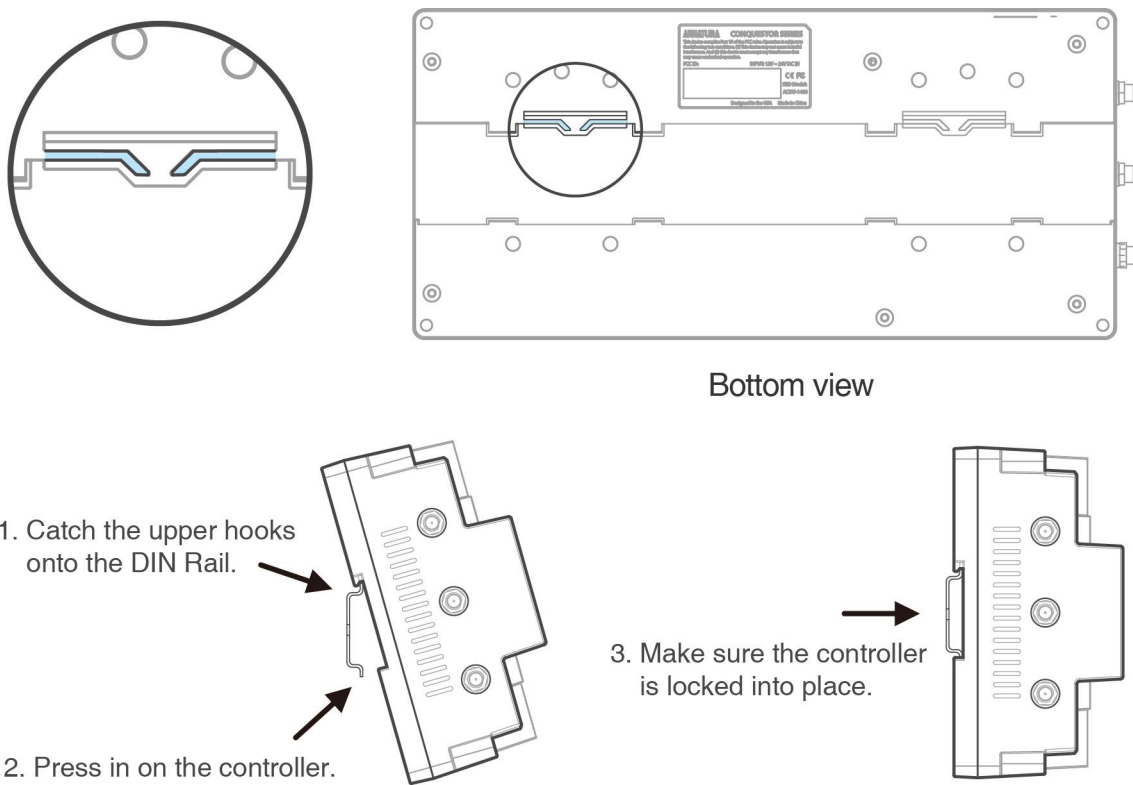

Figure 3-3 Mount the controller to the DIN rail adapter
2. Catch the hooks on the tops of the controller onto the DIN rail and press the controller onto the DIN rail until they lock into place, as shown in Figure 3-3 below.